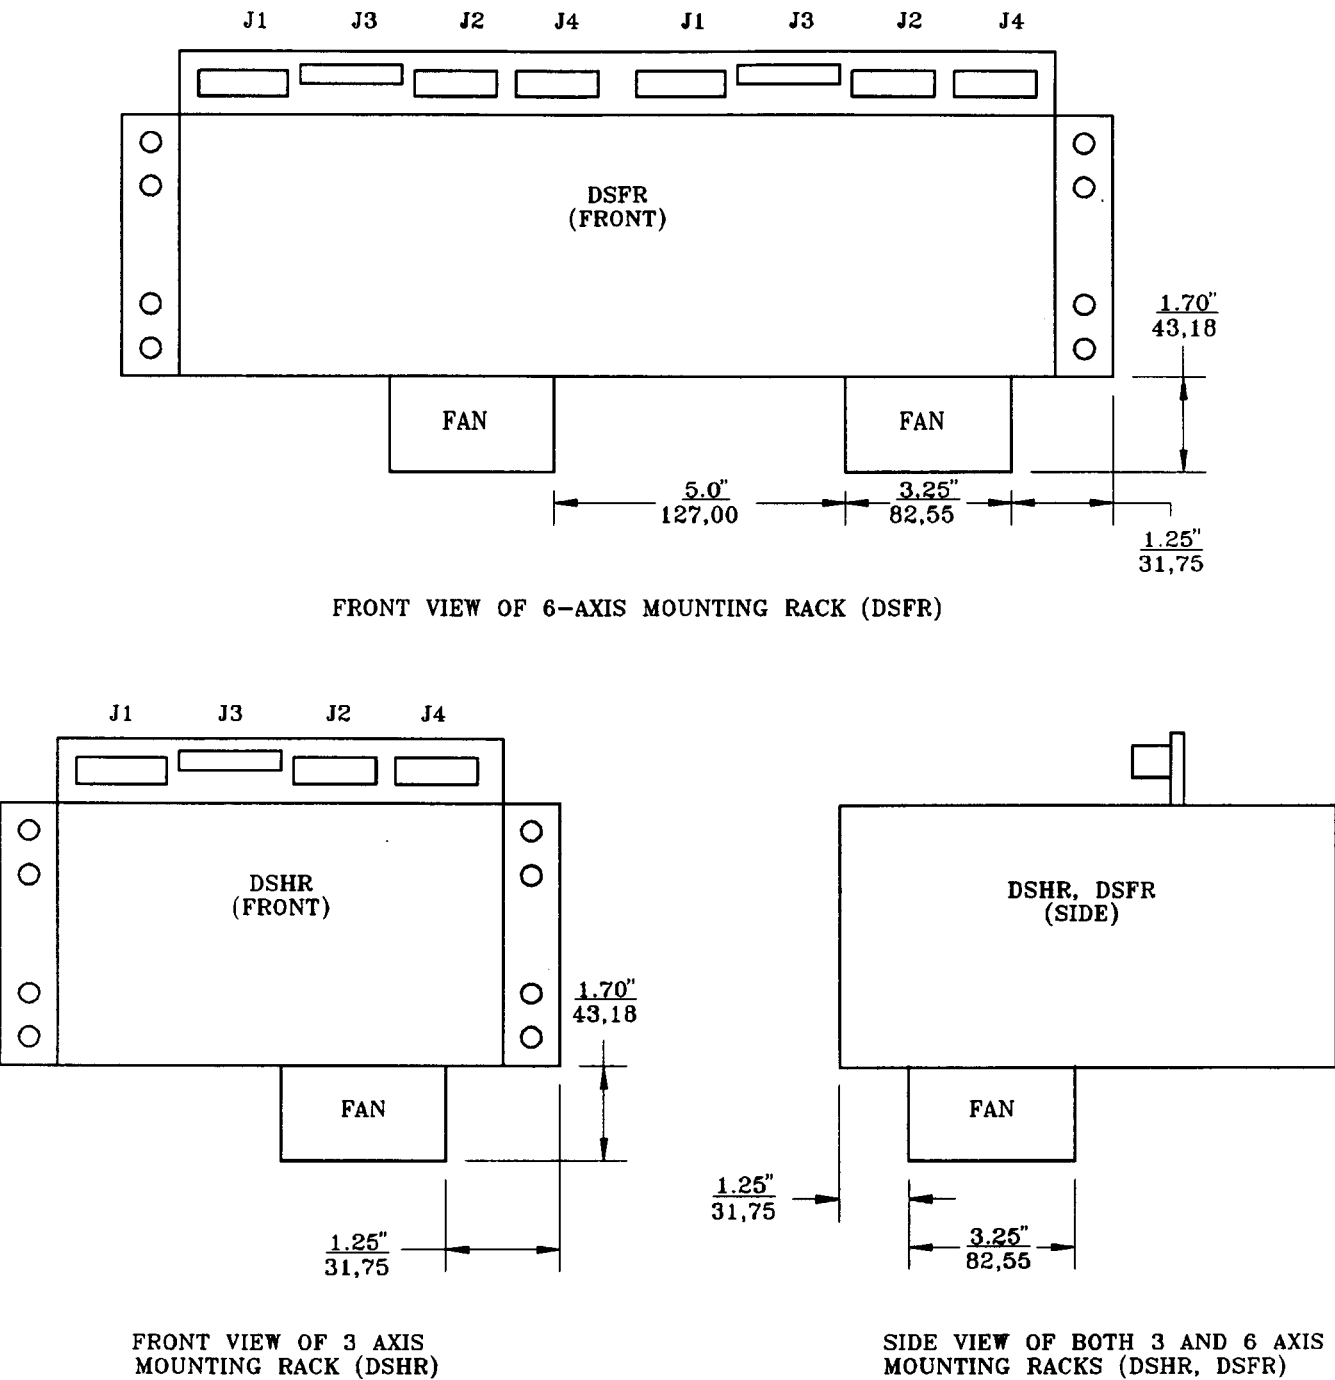

Figure 3-4: DSHR and DSFR Fan Option Dimensions
Refer to additional dimensions for fans shown in Figure 3-4, if optional fan cooling is required. (P/N BA1 for DSHR and P/N BA2 for DSFR.) Fans are required for the DS8020 Servo Amplifiers when continuous current greater than 5 amps is required.
**WARNING: Adequate ventilation space must be provided above and below the mounting rack for adequate convection cooling of the DS8020 amplifiers. This requirement is applicable to units with or without optional fan cooling. (See Figure 3-4 for minimum air flow space.)**